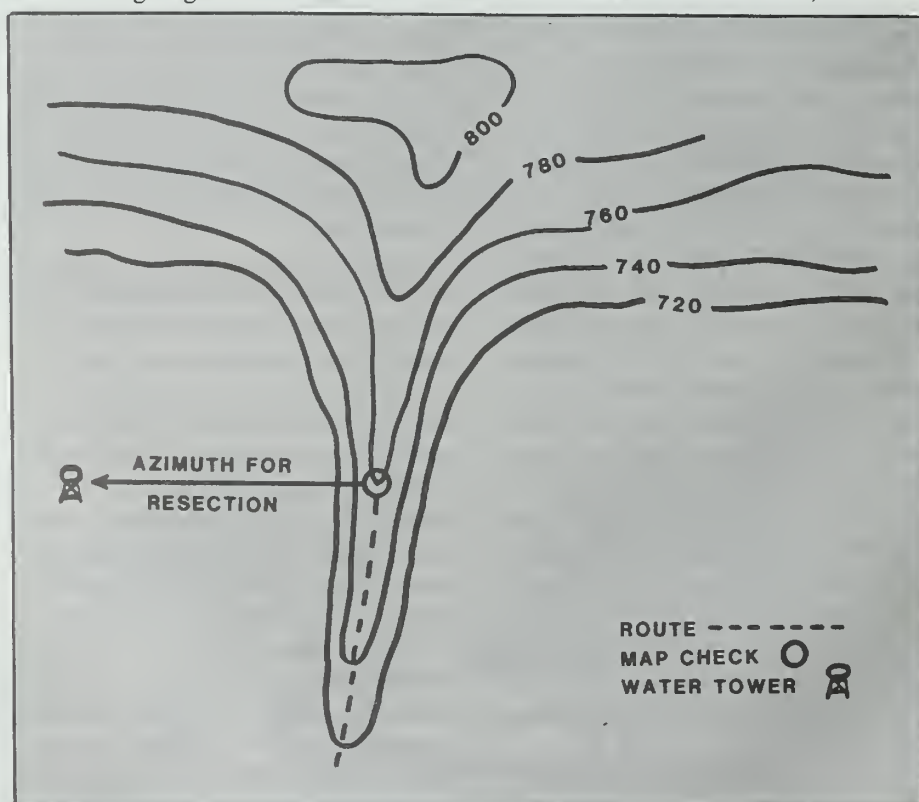

Figure 1
- Picture yourself ascending a path on a narrow ridge. You decide to do a map check using your altimeter while your more traditional assistant patrol leader does a map check using his compass. You glance at your altimeter and see that it reads 760 meters, then check the map to see where your path crosses the 760-meter contour line (Figure 1). You have taken 30 seconds to check your position, while cradling your rifle in your left arm and continuing to move along with the rest of the patrol. Meanwhile, your assistant stops, shoots an azimuth to a water tower, converts from magnetic to grid azimuth, figures the back azimuth, finds his protractor and makes a tic mark on the map, uses his bayonet to draw a more-or-less straight line from the tower back across the path, and finally has an estimate of his position. This takes him a good deal more than 30 seconds.